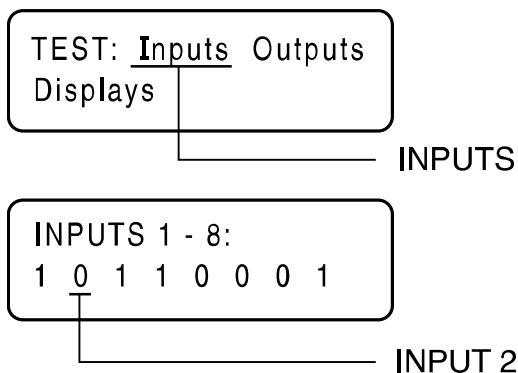

Figure 4-74. The Input Screens
- a. See **Figure 4-74**. Digital Input 2 is Wire 86 from the Low Oil Pressure switch to the board.